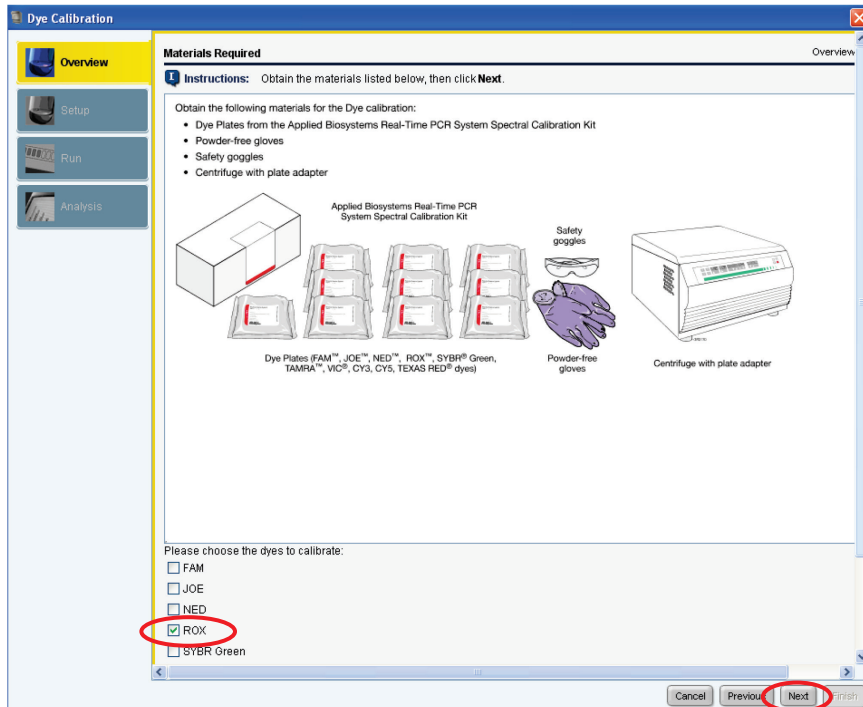

Figure 12. Selecting ROX dye to calibrate.
25. In the **Materials Required** window select only **ROX** and click **Next** (Figure 12).